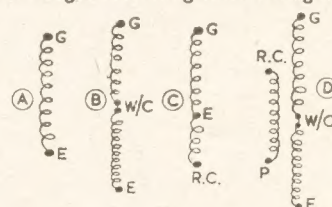

Fig. 3—Frame aerial circuits
If it is desired to use medium waves only, and the reaction condenser is connected between detector anode and frame, instead of between frame and L.T. negative, then only three leads will be necessary. This is shown in Fig. 1. Point 1 goes to detector grid condenser, point 2 (the tapping on the complete winding) to L.T. negative, and point 3 to reaction condenser. This is also shown at (C) in Fig. 3.
Different arrangements may be employed, and Fig. 3 should make these clear. Type D is that for Long and Medium Waves, with separate reaction, first described in detail and shown in Fig. 1.
In Fig. 3, 'G' denotes detector grid
The back (Fig. 1) is first made from a piece of wood 8ins. by 4ins. by $\frac{1}{2}$ in. It is intended that the actual brackets (Fig. 2) be tenoned in, as in Fig. 3, as this
The brackets are fully detailed and dimensioned in Fig. 2. At Fig. 3, we see an economical way of setting out the brackets to avoid waste. Naturally we have to cut a bit oversize to allow for trimming.